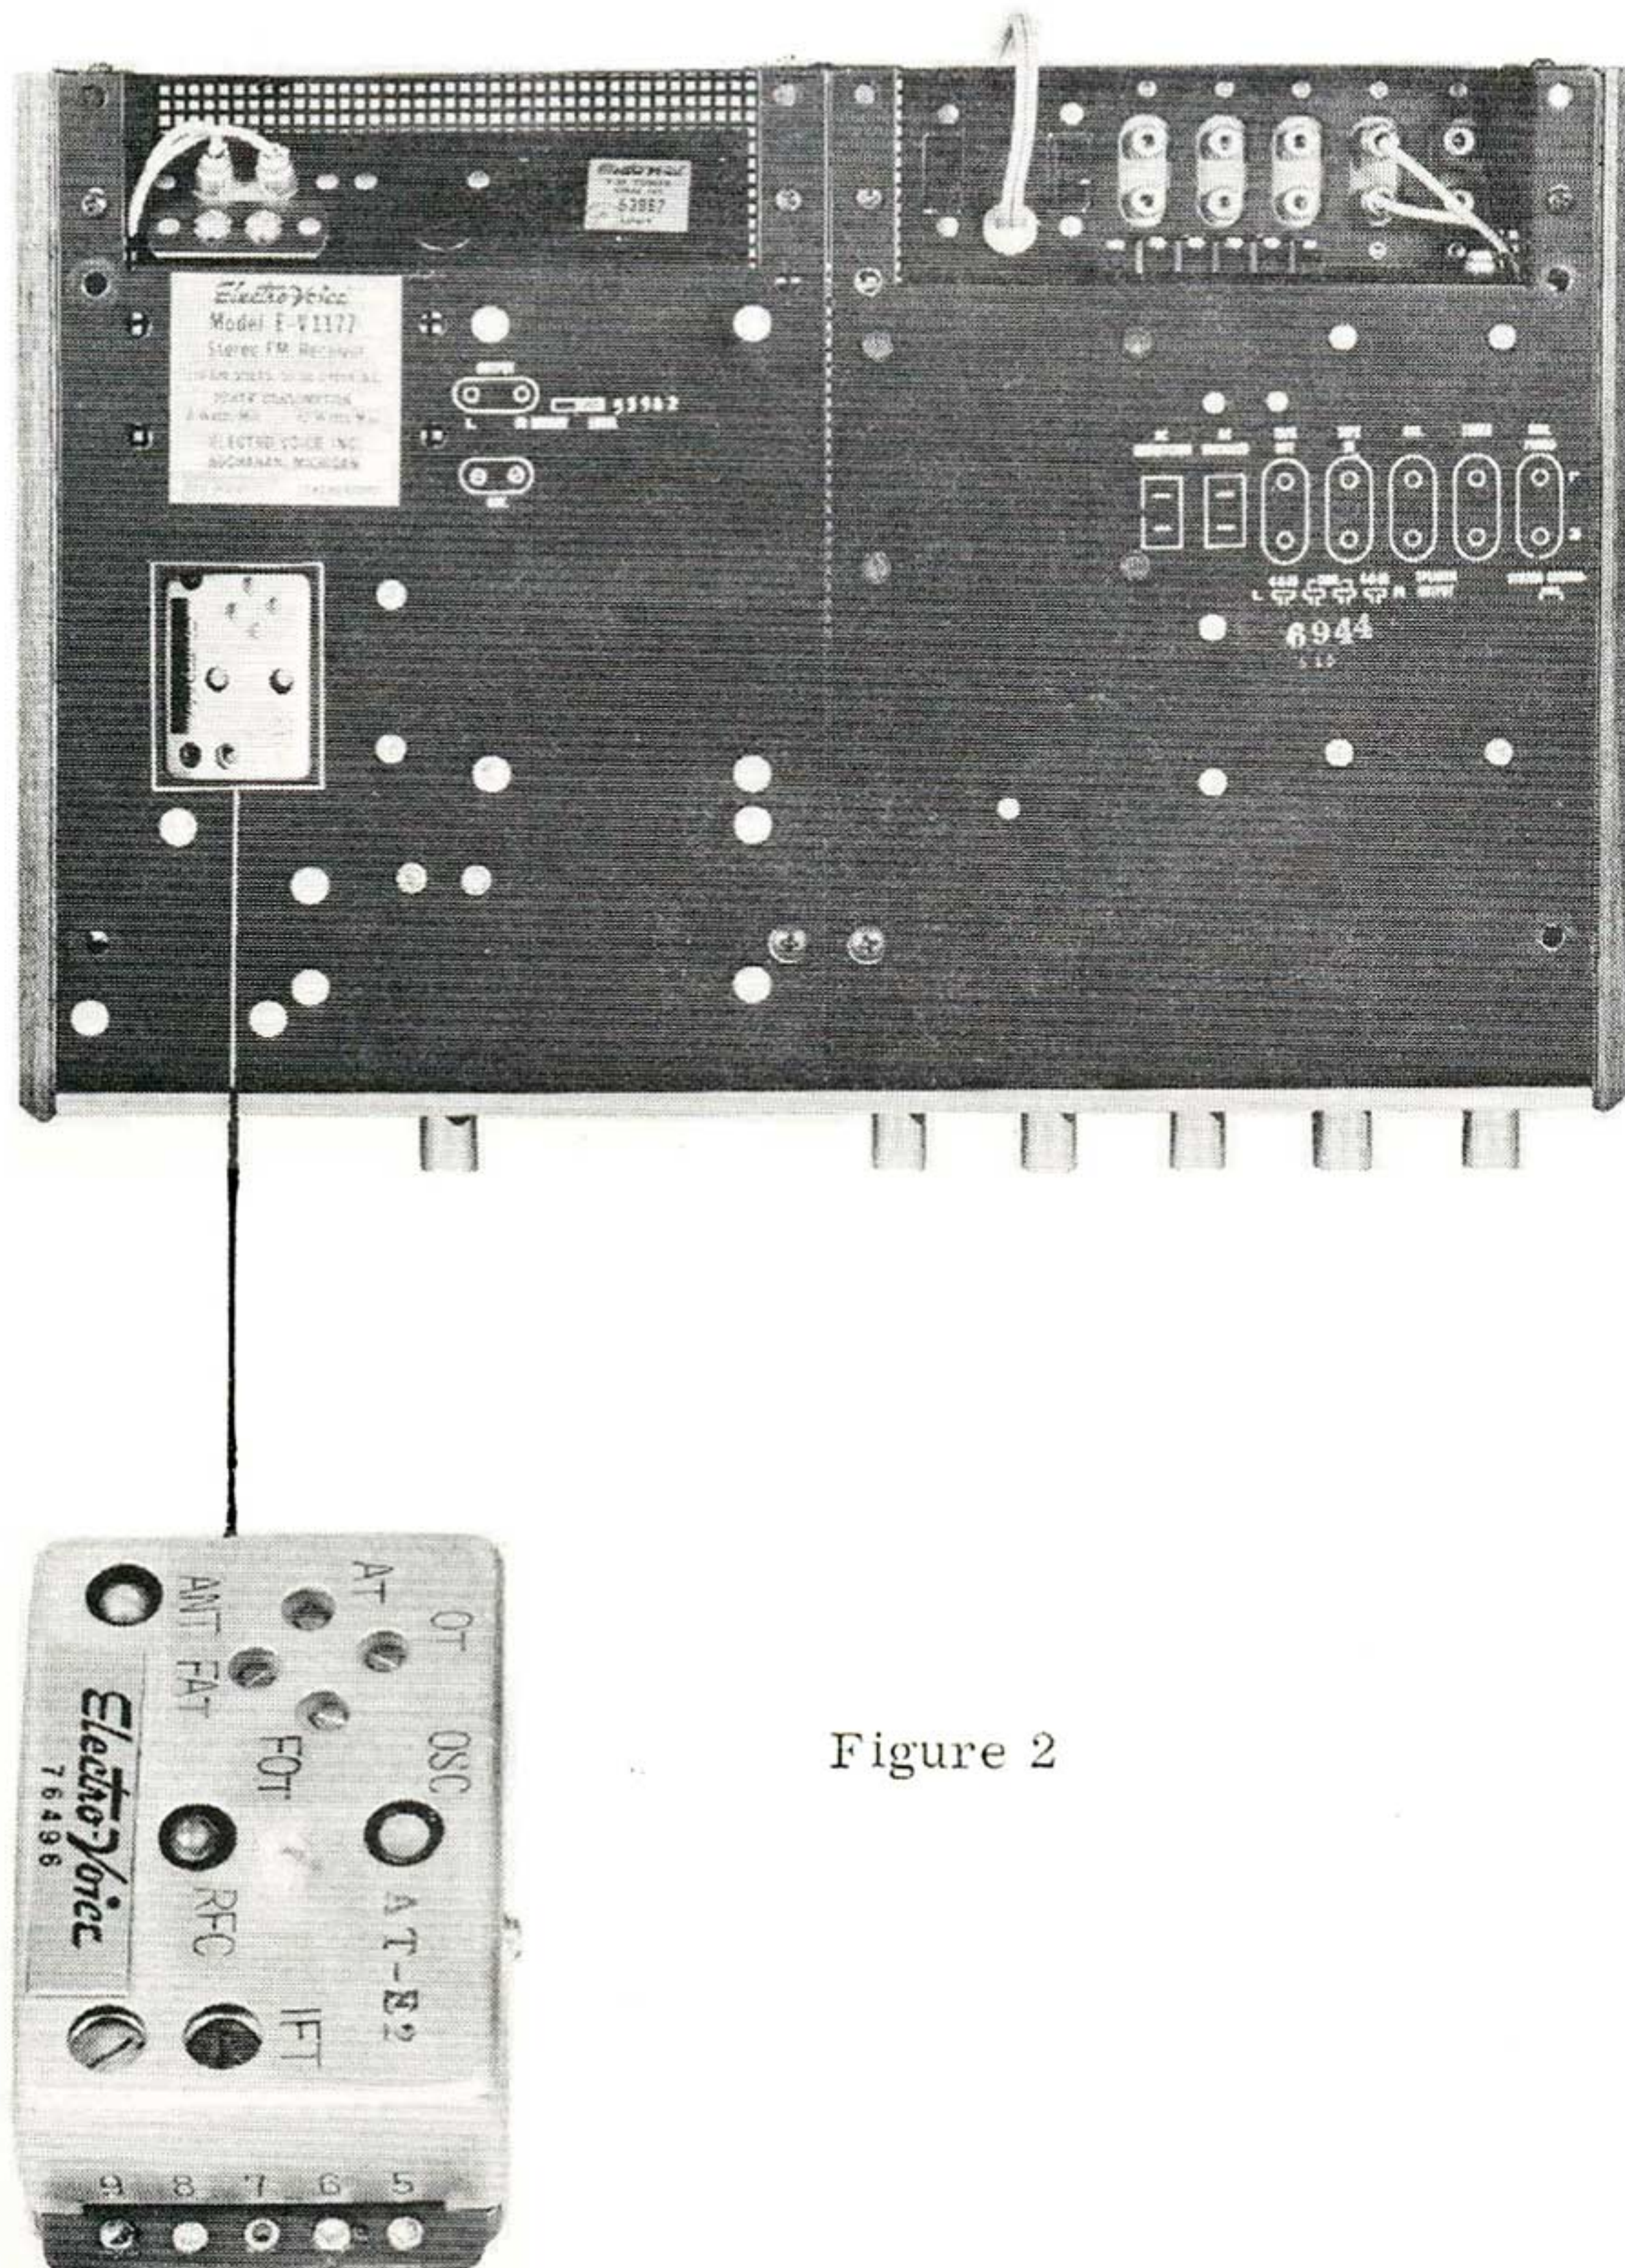

Figure 2
4. Adjust trimmer labeled FAT on bottom of tuner for best signal. (See figure 2 below)